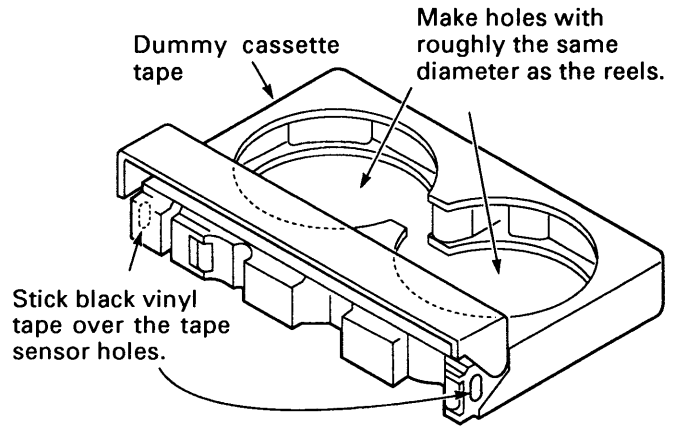

Fig.4-1-2
2. If the mechanism cannot be put into PLAY, FF or REW mode by the method described in 1) above, make a dummy cassette tape, as shown in Fig.4-1-2. The dummy cassette tape is made as follows: Unscrew the five screws on the underside, remove the reels, leaf springs and other parts on the supply and take up sides, make holes in the upper surface as wide as the reel diameter, then assemble the parts.